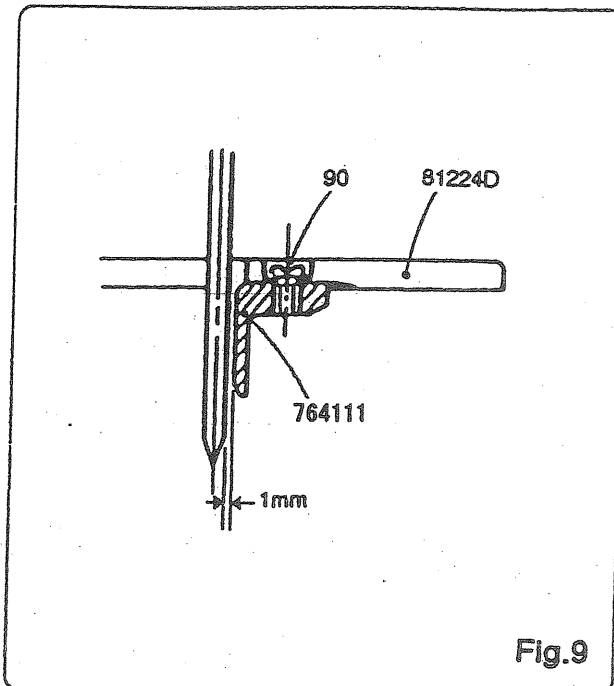

Fig.9
Install needle guard (764111) on rear side of throat plate (81224D) with a clearance of 1 mm to needle as shown in Fig. 9. Throat plate has a groove to accept needle guard. Fasten the guard in place with screw (90).
針板に取付ける針ガード(764111)は、Fig. 9で示す通り針とのスキマが1mmになるように、針板の取付け溝に沿って調整し、ネジ(90)を締付けてください。